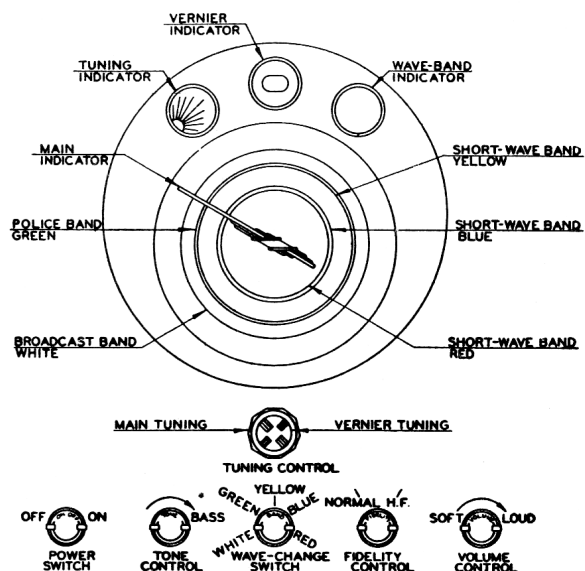

Figure 1—Control Layout
**GENERAL:**—This is an a-c operated radio receiver in a console cabinet using nine tubes and a superheterodyne circuit. Five tuning bands are provided, of which the Broadcast and Police bands are of the usual range, but the three short-wave bands have "spread-tuning". Variable selectivity is provided by use of the Fidelity Control switch. The tuning indicator is an incandescent lamp that dims when a station is tuned in. This lamp does not light when the fidelity control is in the "high-fidelity" or expanded selectivity position. A variable tone control is provided also. The chassis is of three-unit construction, of which the new style "Centromatic" unit forms the centre part. A special tuning capacitor gang having separate smaller sections for the spread bands is mounted upon this unit on rubber cushions. A split knob is used on the tuning drive to give slow or fast tuning. A large size airplane type dial with an edge-lighted glass scale which has the calibrations printed in different colours is used. The tuning indicator, vernier tuning indicator, and band indicator are located at the top of this dial as shown in figure 1. The ten-inch loudspeaker is enclosed in a special "Mirrophonic Tone Chamber".